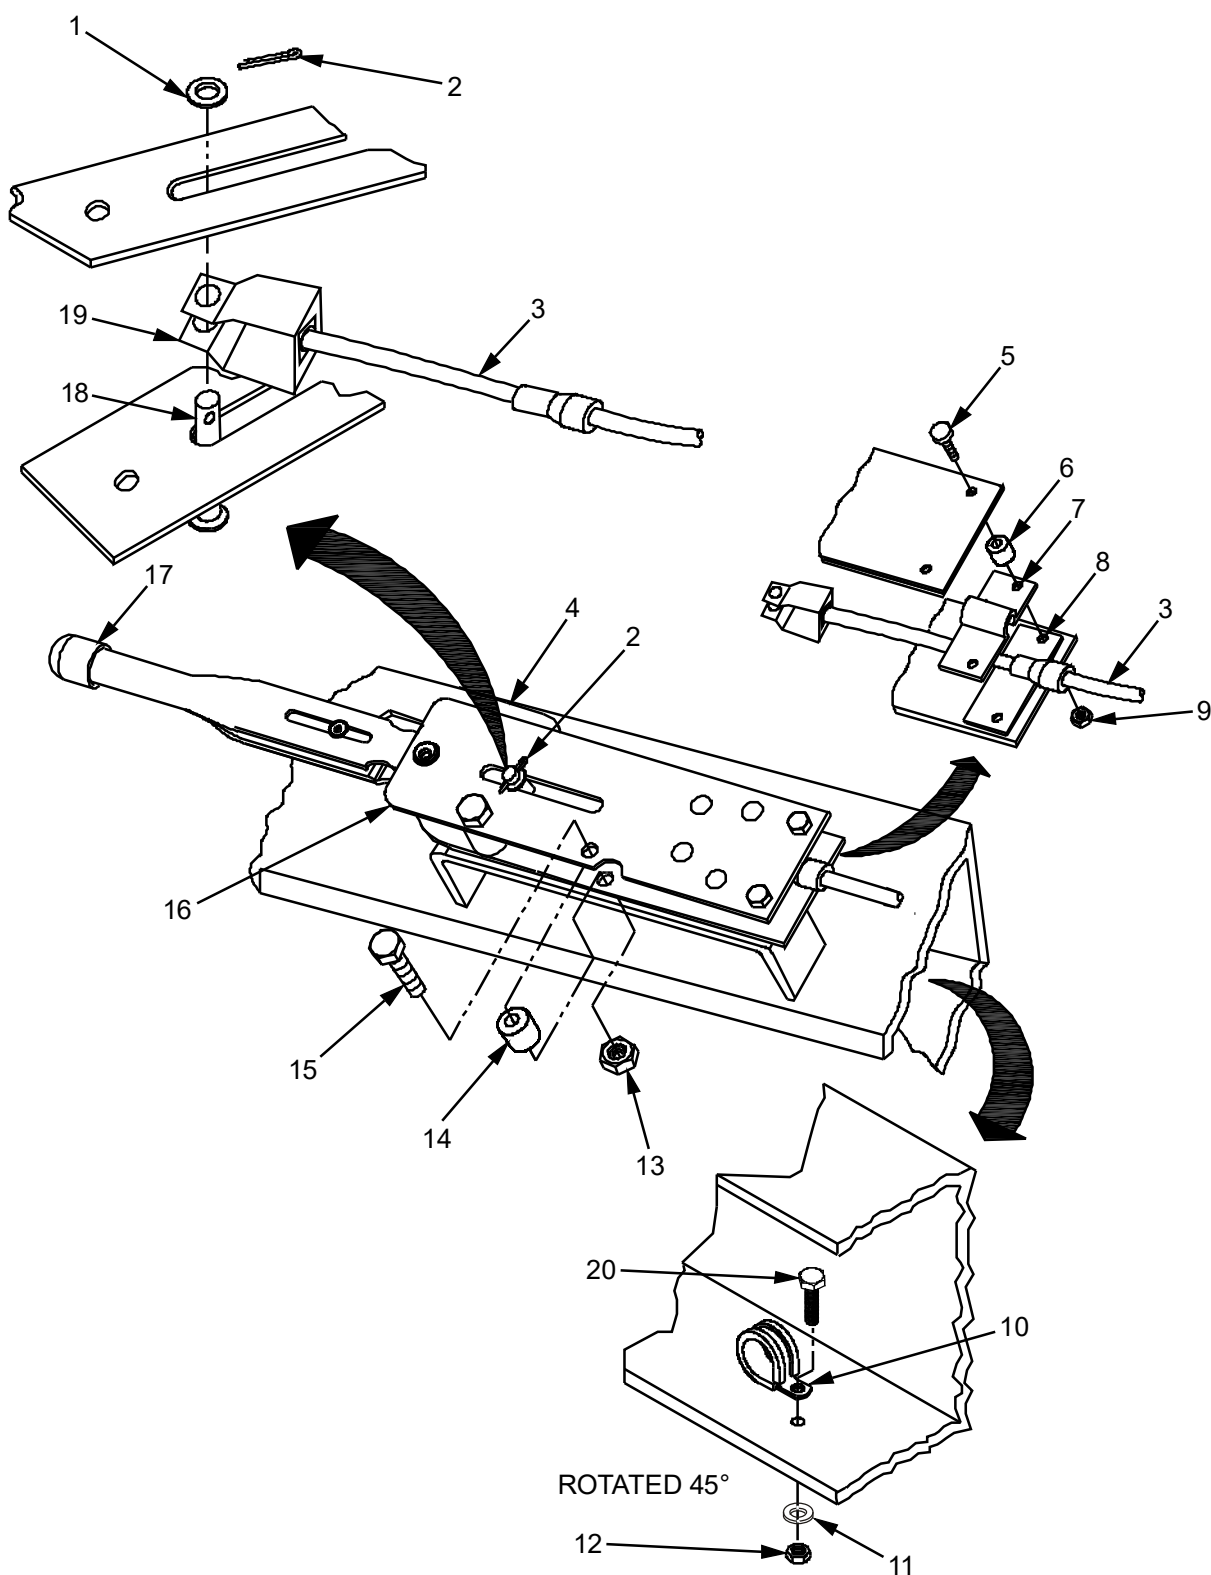

Figure 5. Hand Brake Removal/Replacement.
2. Turn adjustment knob (Figure 5, Item 17) on hand brake lever to be removed to provide slack in cable (Figure 5, Item 3).
3. Remove two locknuts (Figure 5, Item 13), two spacers (Figure 5, Item 14), and two bolts (Figure 5, Item 15) securing hand brake assembly (Figure 5, Item 16) to frame. Discard locknuts.
4. Remove two bolts (Figure 5, Item 5), spacers (Figure 5, Item 6), and lock nuts (Figure 5, Item 9) from hand brake lever assembly (Figure 5, Item 16). Retain front (Figure 5, Item 7) and back (Figure 5, Item 8) cable mounting plates.
5. Using long nose pliers, remove cotter pin (Figure 5, Item 2) from clevis pin (Figure 5, Item 18) and remove clevis pin and washer (Figure 5, Item 1) from hand brake lever assembly (Figure 5, Item 16). Discard cotter pin.
6. Remove cable (Figure 5, Item 3) from hand brake lever assembly (Figure 5, Item 16).
2. Inspect hand brake cable end (Figure 5, Item 19) for excessive wear or damage. Replace if necessary.
3. Inspect clevis pin (Figure 5, Item 18) for excessive wear or damage. Replace if necessary.
4. Inspect cable assembly (Figure 5, Item 3) for frays, cracks, distortion, or seized cable in sheath. Replace if necessary.
6. Inspect hand brake lever (Figure 5, Item 4) and replace if necessary.
1. Install clevis pin (Figure 5, Item 18) and washer (Figure 5, Item 1) through hand brake assembly (Figure 5, Item 16), hand brake lever (Figure 5, Item 4) and hand brake cable (Figure 5, Item 3) and secure with cotter pin (Figure 5, Item 2).
2. Position front (Figure 5, Item 7) and back (Figure 5, Item 8) cable mounting plates around hand brake cable (Figure 5, Item 3).
3. Install two bolts (Figure 5, Item 5), spacers (Figure 5, Item 6), and nuts (Figure 5, Item 9) into hand brake lever assembly (Figure 5, Item 16).
4. Install two bolts (Figure 5, Item 15), two spacers (Figure 5, Item 14), and two new locknuts (Figure 5, Item 13) securing hand brake assembly (Figure 5, Item 16) to frame.
5. Turn adjustment knob (Figure 5, Item 17) until hand brake lever has one-third slack travel from the disengaged position to the engaged position.
2. Remove three bolts (Figure 5, Item 11) and lock nuts (Figure 6, Item 12) securing clamps (Figure 6, Item 10) and hand brake cable sheath (Figure 6, Item 3) to frame.
3. Remove clamps (Figure 5, Item 10) from cable sheath (Figure 6, Item 3).
4. Remove hand brake cable (Figure 5, Item 3) from frame.